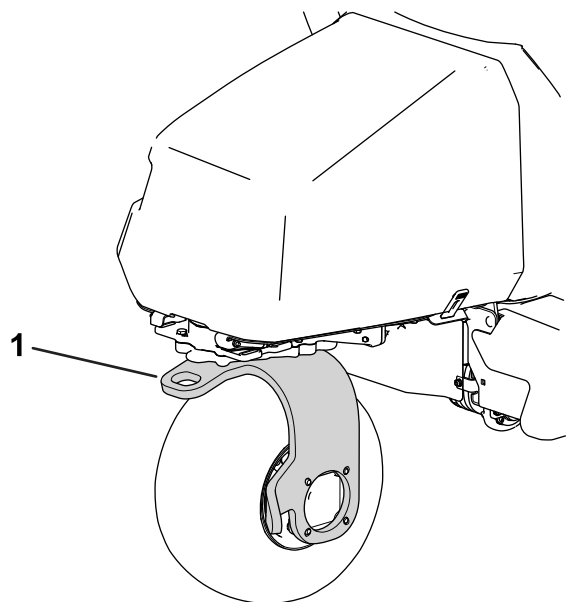

Figure 34
13. Use the rear castor fork to tow the machine (Figure 34).